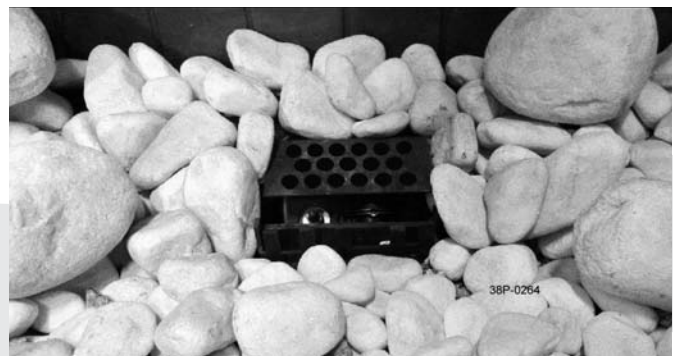

fig. 6
- Spread the carrara stones equally over one layer, see Photo (fig. 6);
- Place the 12 big pebblestones on top of the small pebblestones; see Photo (fig. 6);
- Make sure the pilot burner and the space around it are kept free from objects; see Photo (fig. 6).